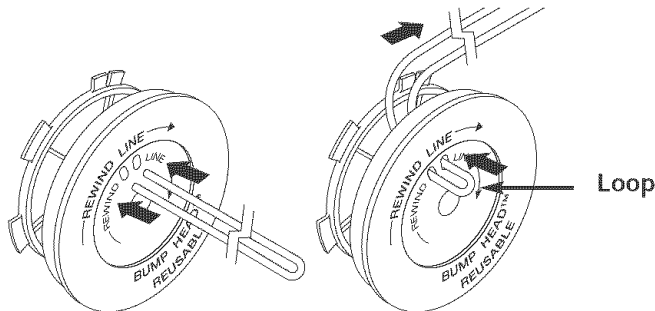

Fig. 19
- Take approximately 18 feet (6 m) of new trimming line, loop it into two equal lengths. Insert each end of the line through one of the two holes in the inner reel (Fig. 19). Pull the line through the inner reel so that the loop is as small as possible.